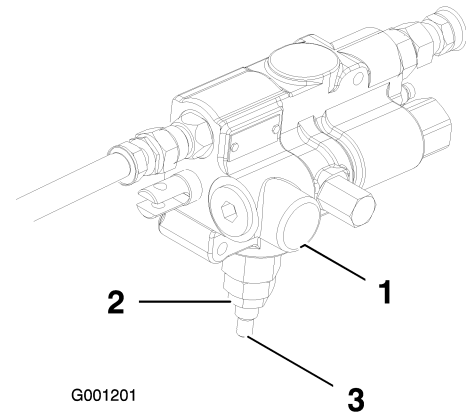

Figure 68
- Loosen the jam nut at the bottom of the lift valve (Figure 68). The lift valve is located on the right side of the machine.